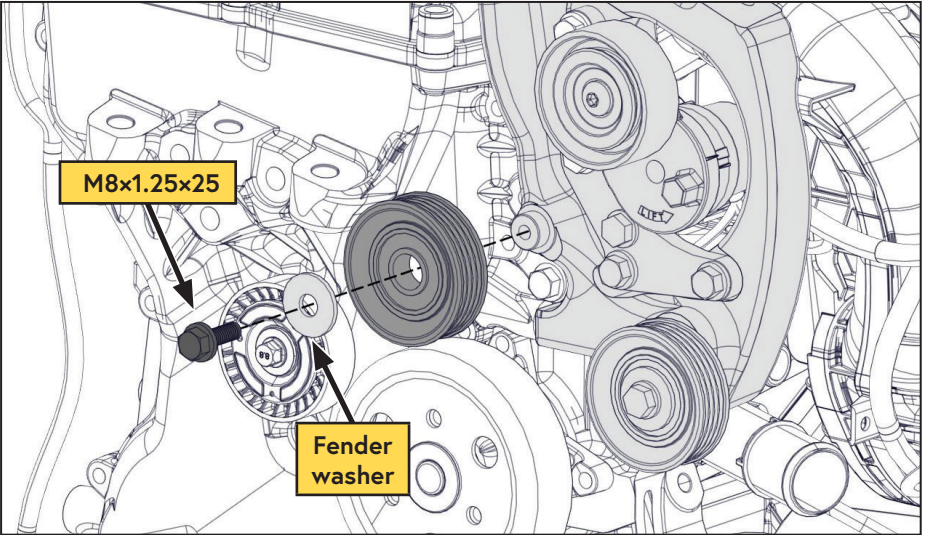

Figure 11 — Install idler
- Using the supplied fasteners, install the idler (removed from the tensioner earlier) onto the VMAC main bracket (Figure 11).